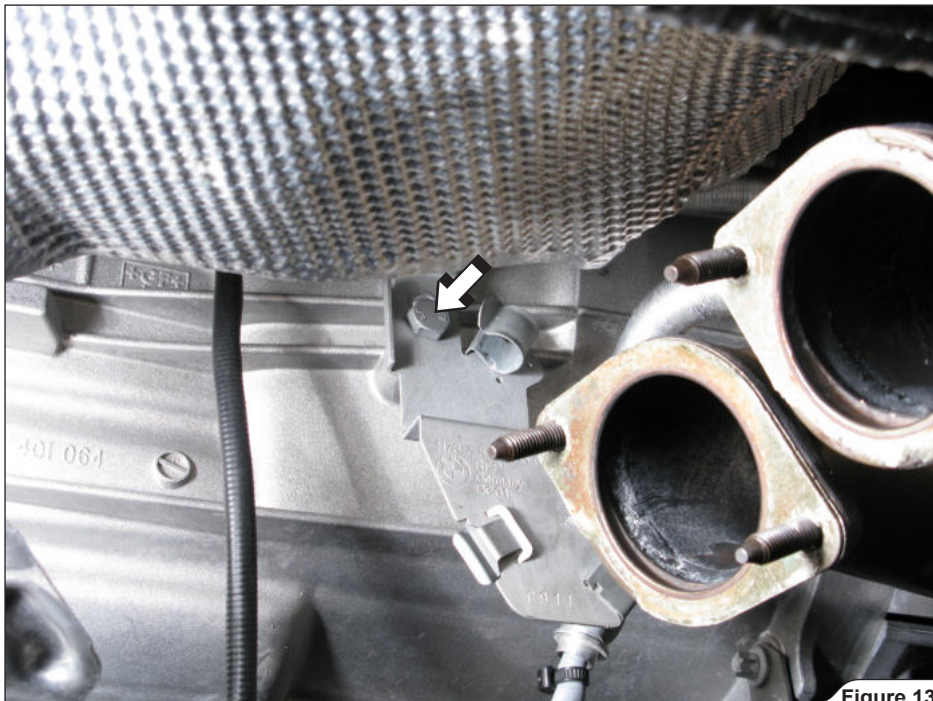

Figure 13
12. **For optional Down Pipes:** unscrew the marked bolt and remove the rear lambda sensors electrical lead bracket (**Figure 13**).